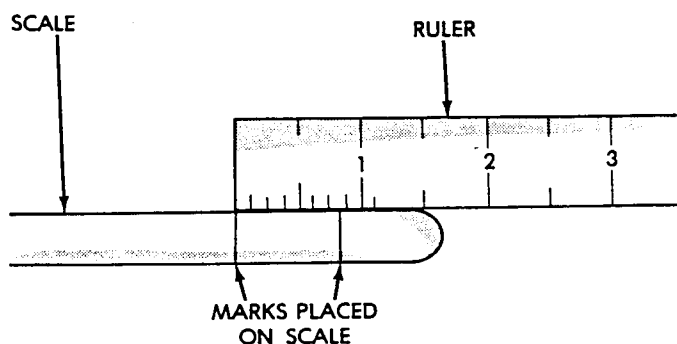

Fig. 5 Measuring Marks on Scale
(7) Measure the distance between the two marks placed on the scale (Fig. 5). If the two marks on the scale are more than one inch apart, replace the drive chain.